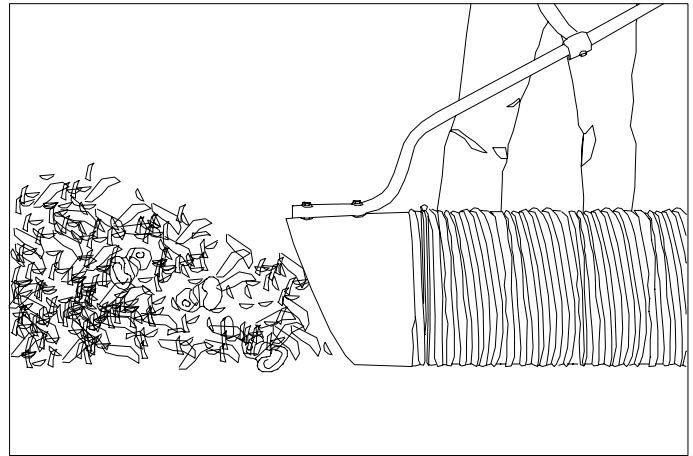

fig. 1
**NOZZLE:** With machine running and fully assembled, move nozzle in sweeping motions over debris. For maximum pickup, move nozzle close to debris, but without blocking air flow into the nozzle (see figure 1). **NOTE:** Never bury nozzle into debris.